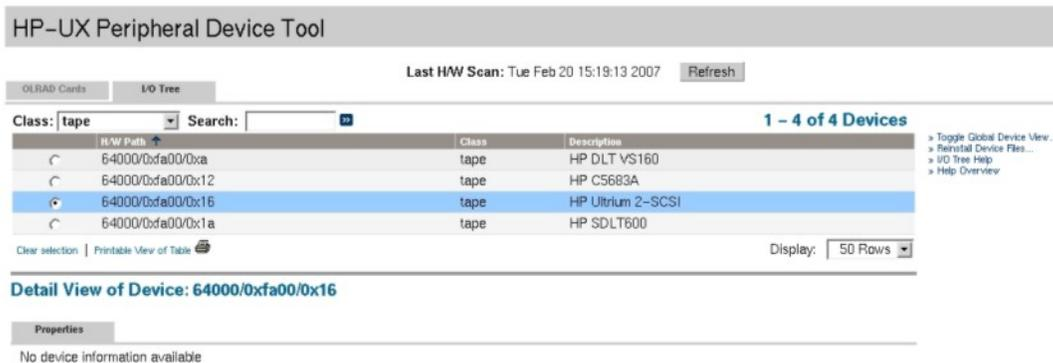

Figure 5 Selecting a tape device to create its device files (Agile View)
3. Select tape from the **Class** drop-down box on the HP-UX Peripheral Device Tool page. Select the tape device (radio button) requiring device files from the resulting list. If device files are not already present this will be indicated under the Properties header (see Figure 5)⁵.